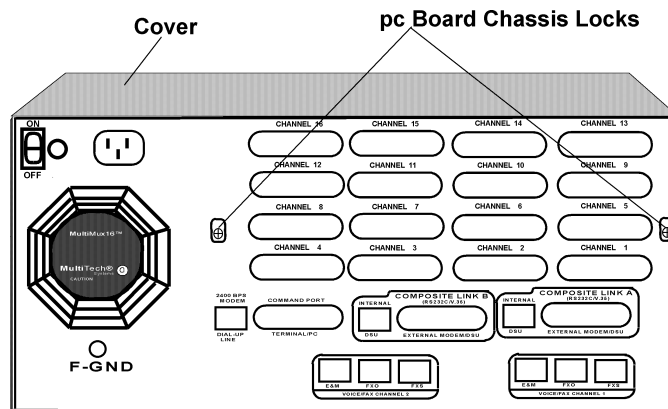

Figure 4-2. Composite Link Cabling
- 2 Loosen the two pc board chassis lock screws on the back panel. See Figure 4-2.